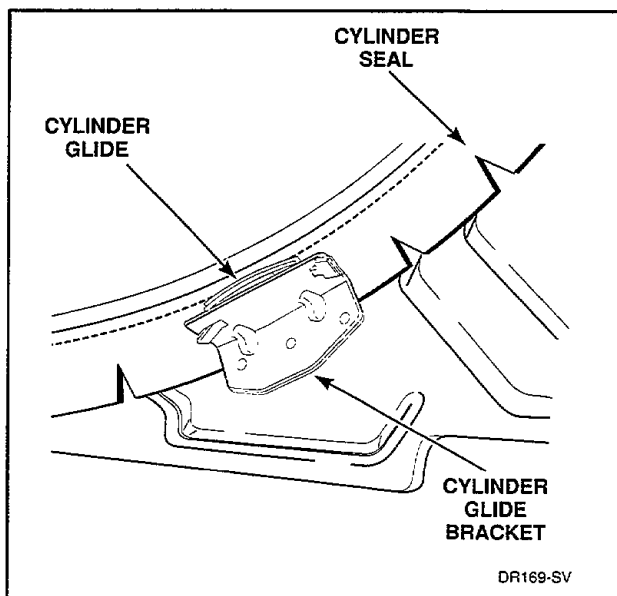

Figure 34
- h. **Cylinder Glide and Glide Bracket** (Refer to *Figure 34*.)
- (1) Unsnap glide from each glide bracket.
- (2) Remove two screws holding glide bracket to front bulkhead.
- i. **Front Cylinder Seal** (*Figure 34*)
NOTE: When reassembling the front bulkhead to the cabinet, hold glides in position with finger tips on the edges of glides. Once bulkhead is in place, inspect the glide position with a mirror to ensure the glides are aligned with the cylinder, making sure the tabs are visible, *Figure 34*.